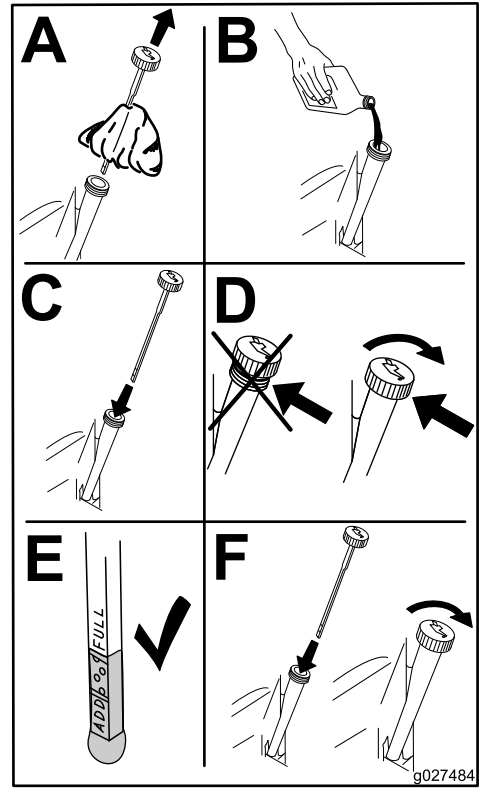

Figure 30
- Slowly pour approximately 80% of the specified amount of oil into the fill hole (Figure 30).
- Check the oil level; refer to Figure 30.